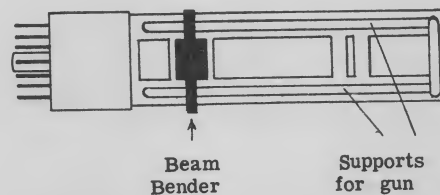

Fig. 6-15. Placement of beam bender magnet between CRT gun supports.
*Initial Installation of Beam Bender.* Installation may be simplified by studying the configuration of the CRT's gun structure (Fig. 6-15). Most gun structures have two main insulated supports running parallel to each other in the front-to-back horizontal plane. Where three supports are used, any pair of supports may be selected initially as the guide for orientation. The beam bender is placed on the neck of the CRT so that the magnet is located halfway between the insulated supports and between  $\frac{1}{8}$  to  $\frac{1}{2}$  in. from the CRT socket. The set is then turned on and the brightness control is advanced approximately three-fourths of the way up. After allowing sufficient warm-up time, the beam bender is quickly shifted straight forward and backward. If the screen does not light up with this procedure, the beam bender is twisted 180 degrees (halfway around) to the opposite side of the picture tube and then shifted straight forward and backward. With guns using three supports, the magnet may line up exactly on the supports or exactly in-between a pair of supports. One of these positions should light up the screen, and the final adjustment is then made at normal brightness. It is often possible to obtain two distinct positions which will light up the screen. When this is the case, the closer position to the CRT socket is the correct one. A form of neck shadow often results from the forward or incorrect position. The magnetism of the beam bender may be checked with some metallic contact, such as a steel screwdriver.
c. *Centering of Magnetically Focused Tubes.* Loosen the lock screws and adjust the centering plates (which are part of the focus assembly) for proper positioning. (See Fig. 6-15.)